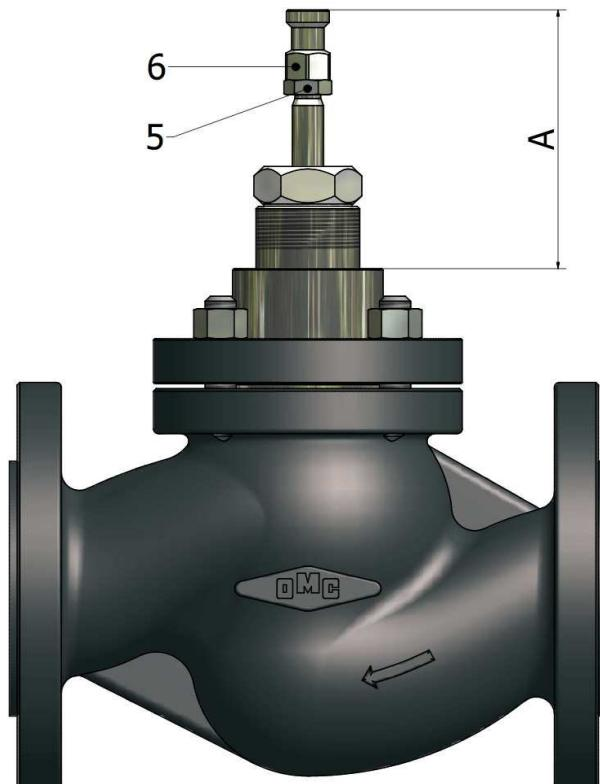

Fig. 12
- Remove the screws (1) and the clamp (2)
- Loosen the mounting nut (3) completely.
- Catch the actuator yoke (4) and remove the actuator from valve body.
- Measure accurately (+/- 0,1mm) the distance (A) as showed on Fig. 12 and take note.
- Remove items (5) and (6)
- Re-assemble all the items in reverse order ensuring the alignment of the spindles and the restoring of the measure (A).